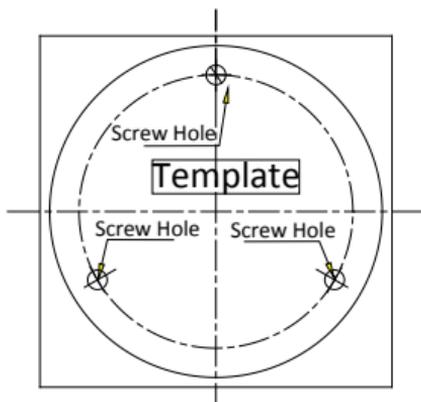

Figure 1-2 HB74H(X) Mounting Template
1. Drill the screw holes and the cable hole in the ceiling according to the supplied mounting template (see Figure 1-2).